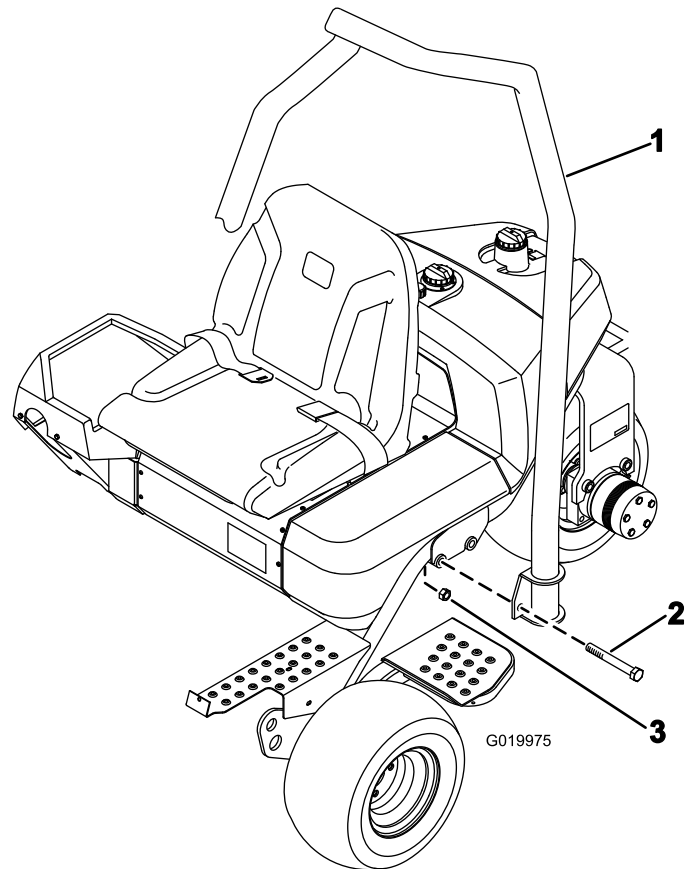

Figure 7
- Position the ROPS so the top of the tube is curved toward the front of the machine (Figure 7).
- Lower the ROPS onto the frame, aligning it with the mounting holes (Figure 7).
- Secure each side of the ROPS to the frame with 2 bolts (5/8 x 4-1/2 inches) and locknuts as shown in Figure 7. Torque to 183 to 223 N·m (135 to 165 ft·lb).